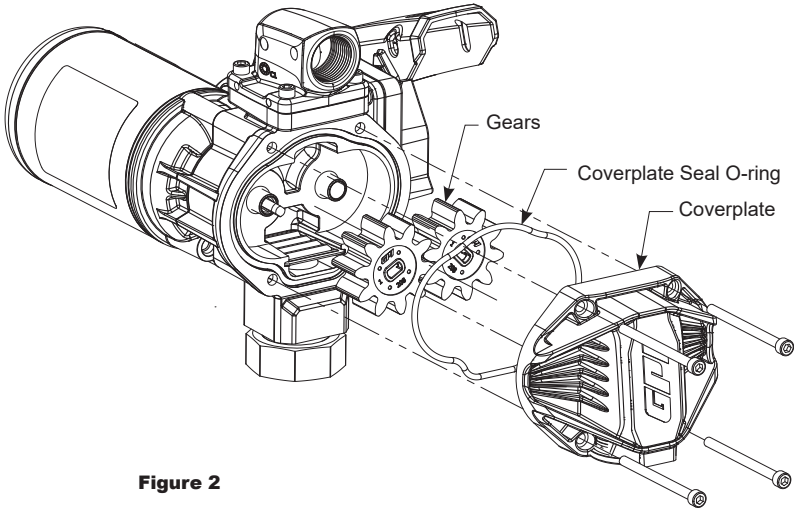

Figure 2
2. Using 5mm hex wrench, remove the gear coverplate and O-ring (see Figure 2).